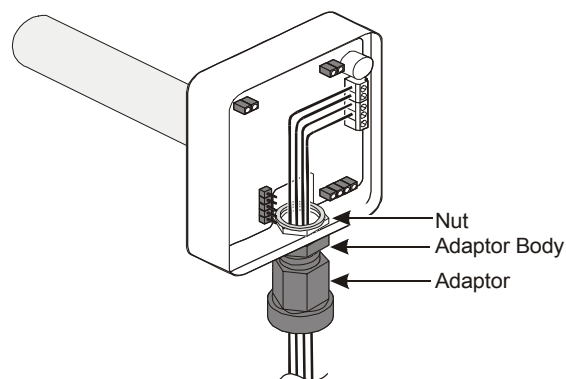

Figure 2: Assembling the Conduit Adaptor
2. Align the nut with the opening inside of the enclosure and hold in place (see Figure 2).
4. Manually tighten the adaptor body onto the nut, turning in a Clockwise (CW) direction (see Figure 2).
6. Tighten the adaptor onto the adaptor body by turning the adaptor in a CW direction (see Figure 2).